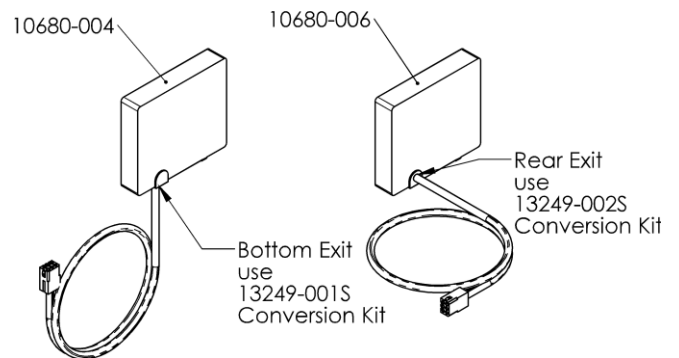

Figure 1: Driver Interface comparison
2. Confirm the lead on the new Driver Interface supplied with the NORV TEL Conversion Kit exits from the frame in the same way as the old Driver Interface being replaced. See **Figure 1**.